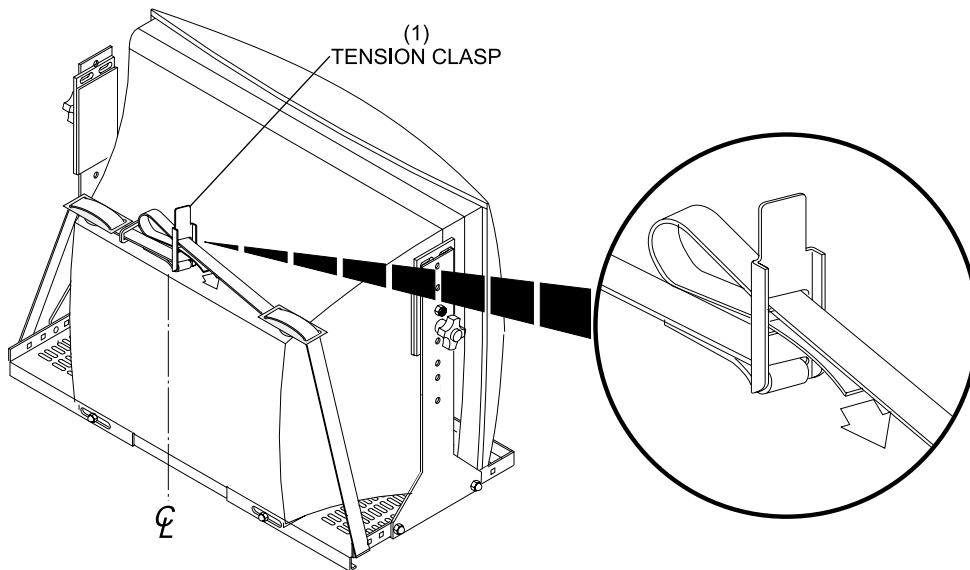

Figure 3. Thread Strap Through Tension Clasp
3. With tension clasp centered on top of monitor, feed the strap through the top slot of tension clasp and back through the bottom slot. Refer to *Figure 3*.